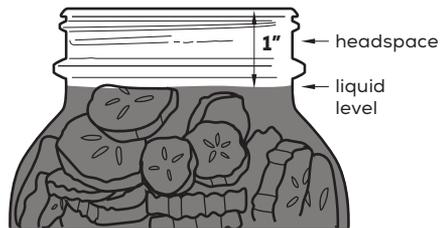

Figure 1.
2. Fill an 16-oz. clean canning jar to the level shown in Figure 1. **DO NOT** exceed the level shown, as there needs to be at least 1-inch of headspace at the top.